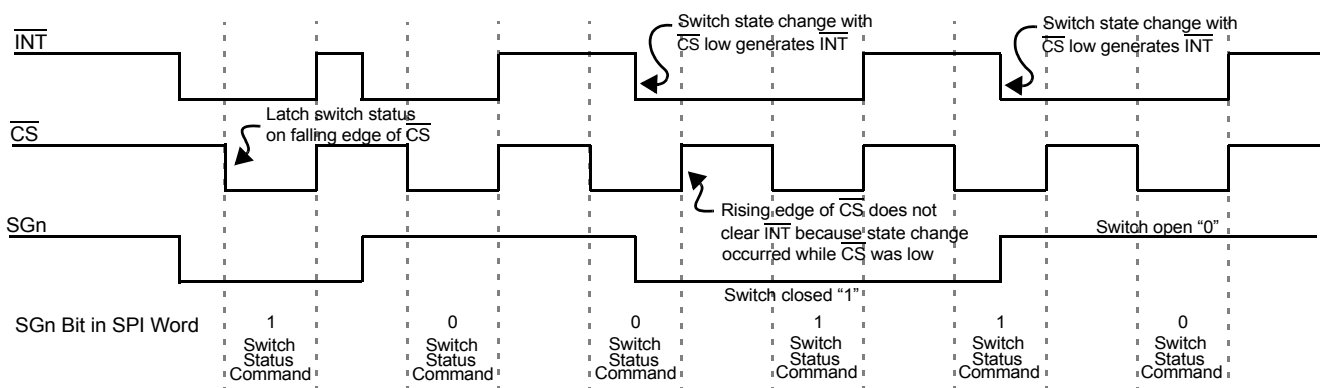

Figure 6. Normal Mode Interrupt Operation
1. $\overline{\text{INT}}$ terminal is reset to logic [1], except when additional switch changes occur during $\overline{\text{CS}}$ low (see Figure 6, page 10).
Figure 6, page 10, is a graphical description of the device operation in Normal mode. Switch states are latched into the input register on the falling edge of \overline{CS} . The \overline{INT} to the MCU is cleared on the rising edge of \overline{CS} . However, \overline{INT} will not clear on rising edge of \overline{CS} if a switch has closed during SPI communication (\overline{CS} low). This prevents switch states from being missed by the MCU.